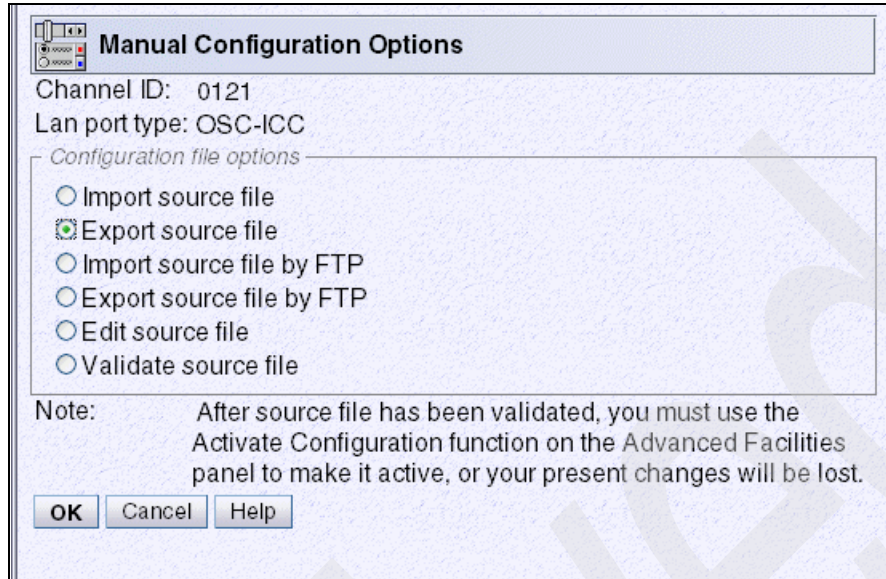

Figure 3-41 HMC - OSA Advanced Facilities (Export source)
7. Select the radio button **Export source file** and click **OK** (Figure 3-41).